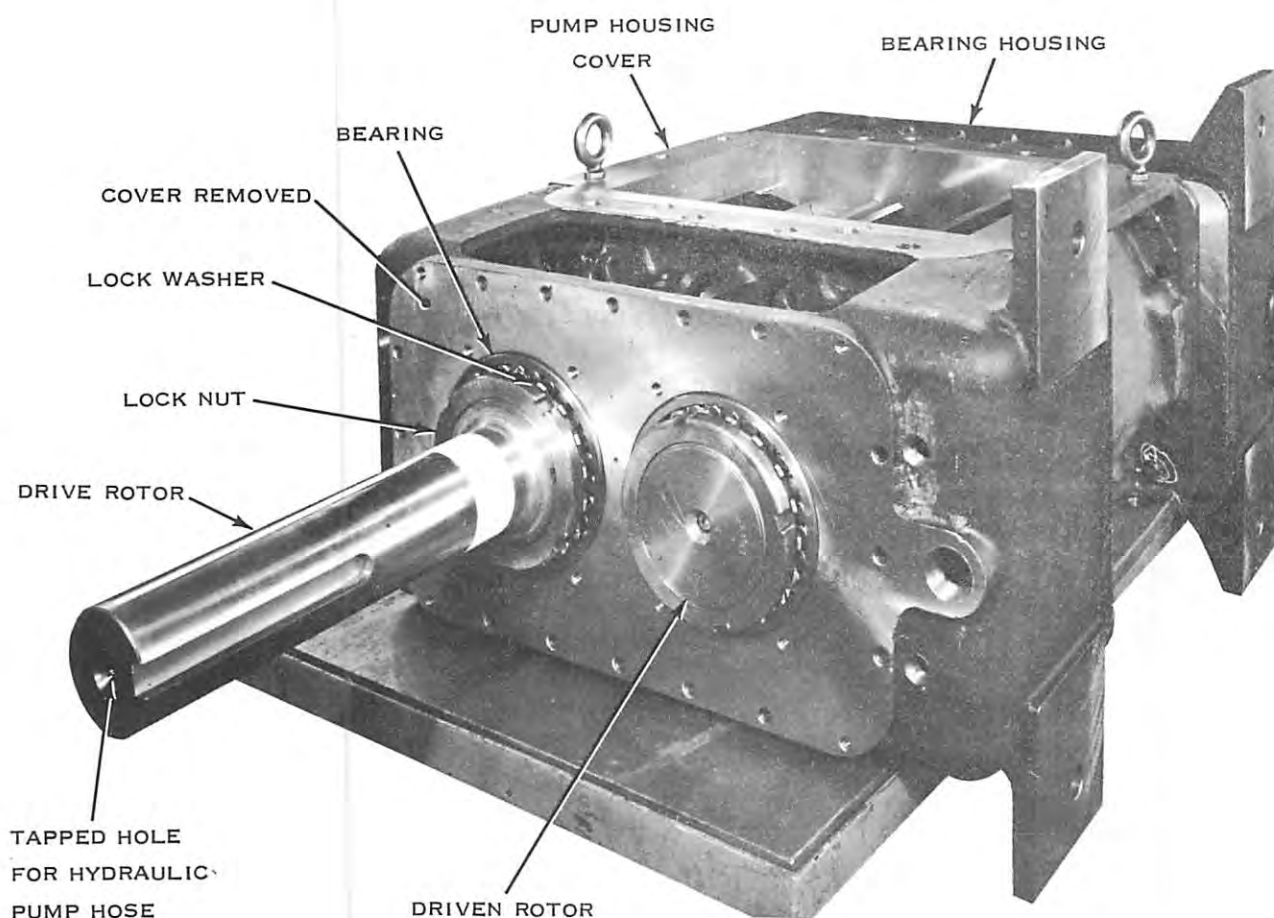

FIGURE 4. DRIVE END BEARING COVER REMOVED
2. PRY LOCK WASHER TANG OUT OF LOCK NUT SLOT (SEE FIGURE 4).